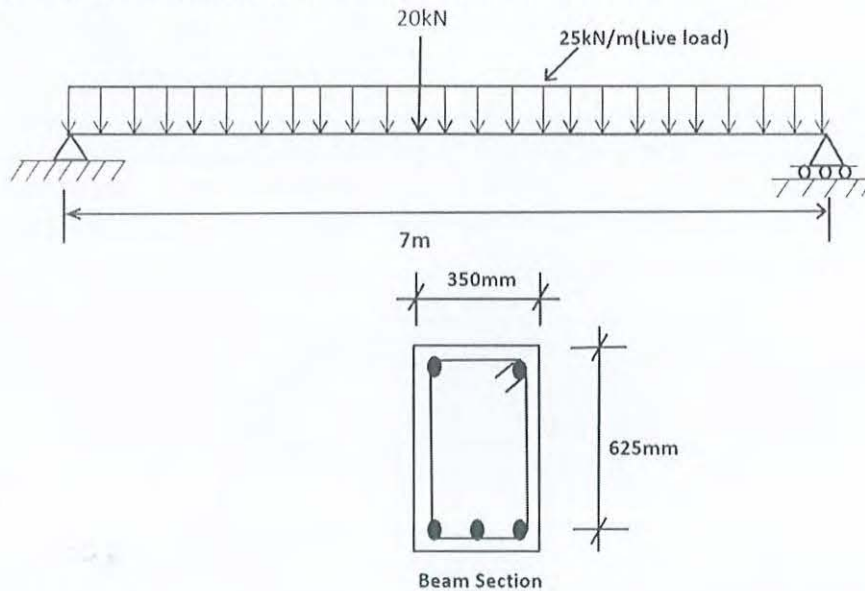

Figure:3
5. A simply supported beam (as shown in Figure 3) carries live load of 25kN/m, dead load of 30kN/m (excluding self-weight of beam) and 20 kN point load at the middle of the span. Design the beam for shear. Provide shear reinforcement details for design shear force and minimum shear reinforcement. Use $F_y = 420$ MPa and $f_c' = 28$ MPa. (16)